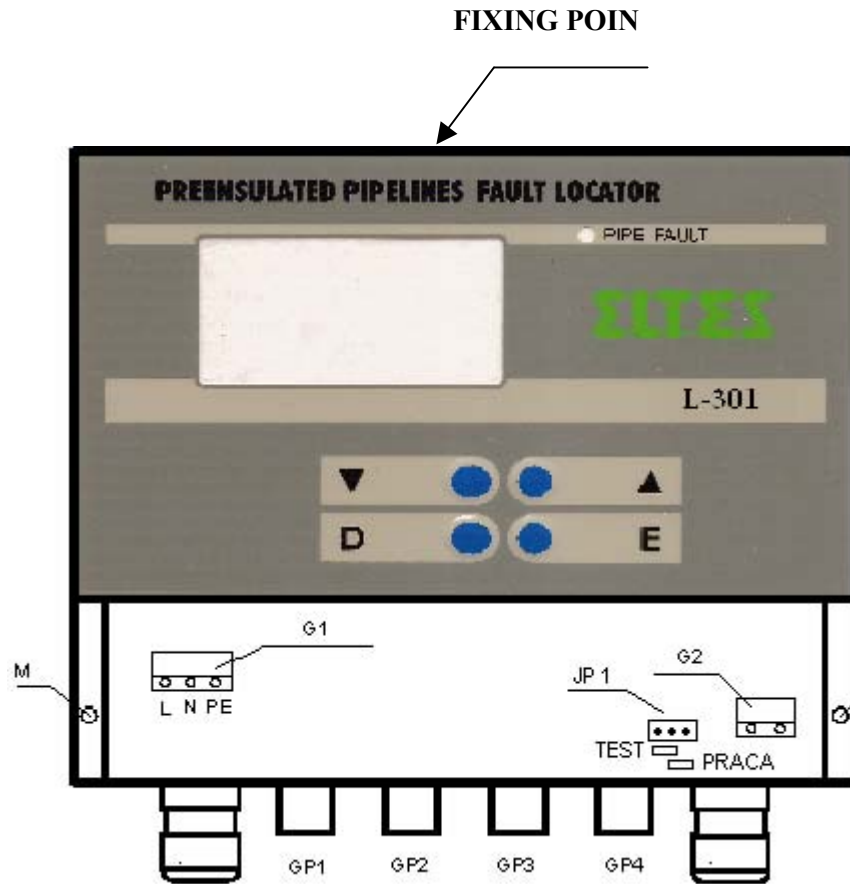

fig.1
1. Set jumper JP1 (fig. 1) on the „TEST” position (factory settings)
**When the jumper JP1 (fig. 1) is set to “TEST” position, locator displays for the connected channels “BREAK” and the pipe length will be displayed. In this position of the JP1 jumper is possible to test the break or short circuit in any point of the pipe.